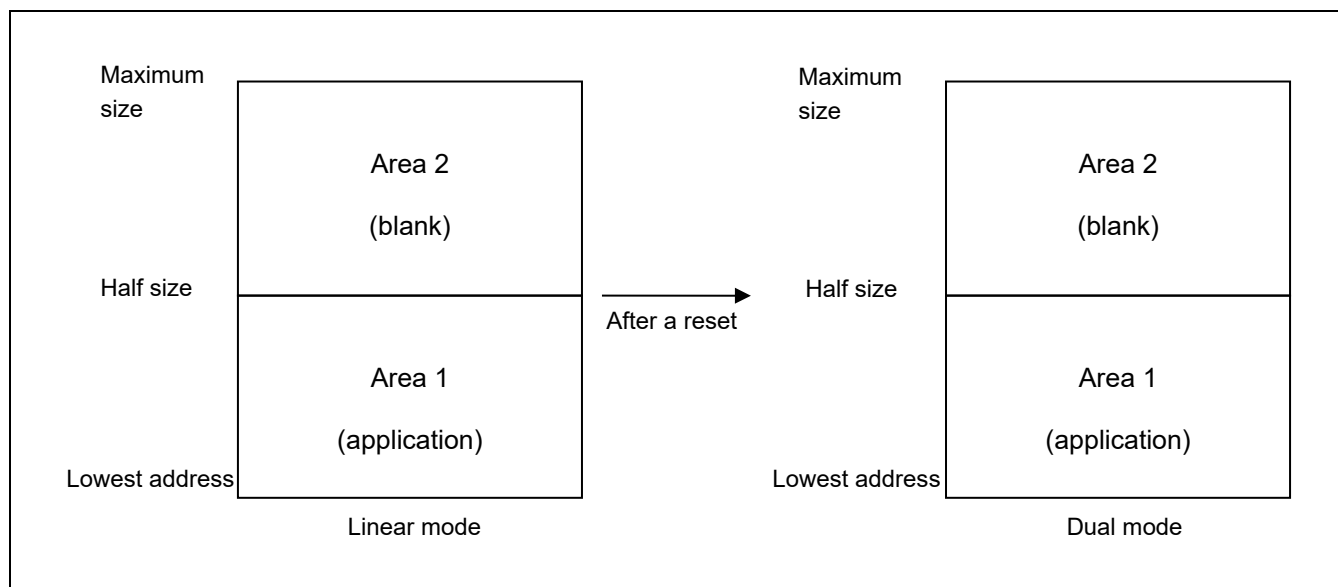

Figure 5-1 Programming an Application for Use in Dual Mode in Linear Mode
- Condition: Do not program area 2 in Figure 5-1.
2. Program the program file for the option-setting memory that specifies the dual mode and the program file (application) for area 1 in Figure 5-1.
Remark: When switching from linear mode to dual mode is to proceed, it is recommended that area 2 in Figure 5-1 be blank.